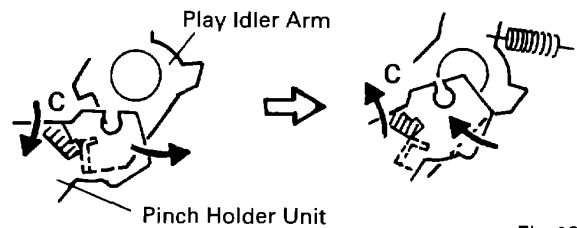

Fig.12
② Linked with the movement of the Pinch Holder Unit, the Play Idler Arm is drawn out by the spring to interlink the Reel Unit and the NOR flywheel.
* The (c) part slides in the release direction, and the Play Idler Arm proceeds to be interlinked by the tension of the spring. (Fig.12)